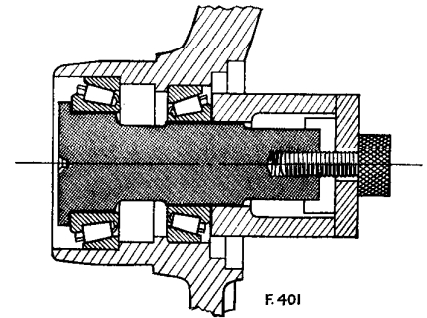

Fig. 28.
7. Dismantle gauge and liberally grease and refit the outer bearing, fit the outer seal as shown in figure 28 and wipe off surplus grease. Use the vertical outer oil seal replacer S.322.
Fit this assembly to the wheel flange using drift S.324 as shown in figure 28.